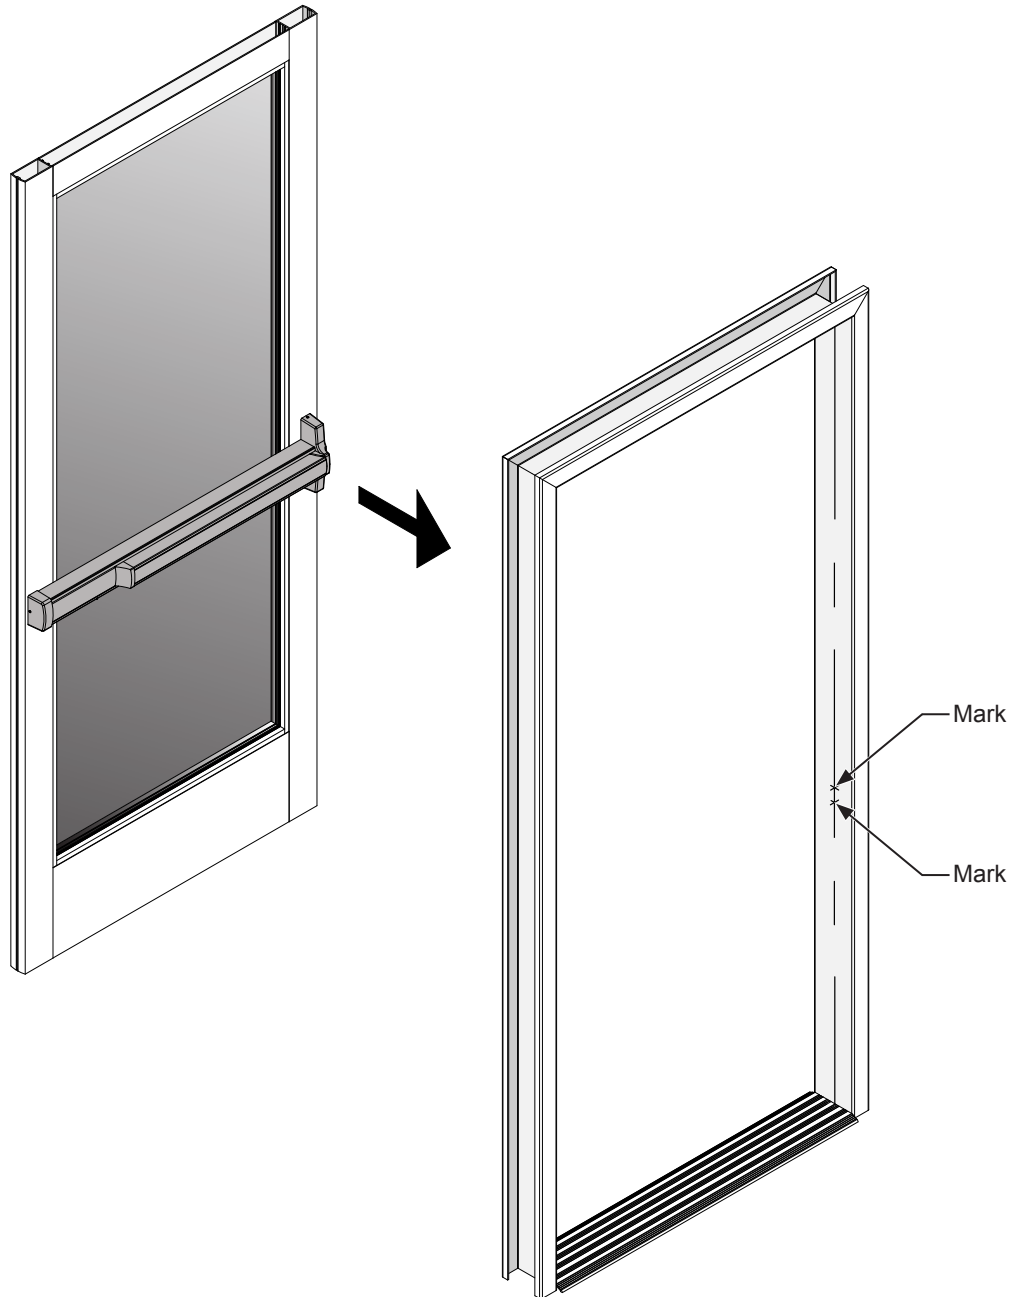

FIG. 12
2. With the door in place and in the closed position, mark the center line locations on the door frame. **(Fig. 12)**